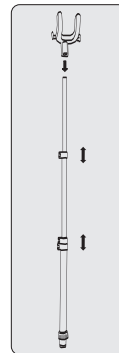

Figure2
1. Put the clothes hanger hook onto the top of telescope pole (A) along the alignment as shown in Figure 2.
5. Pull the whole pole to its full extension and tighten the clips as shown in Figure 2.